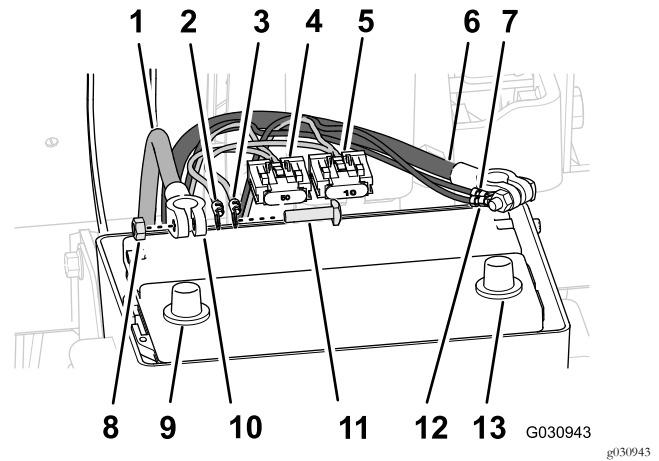

Figure 170
1. Route the positive terminal (red wire), negative terminal (black wire), and 50 A fuse block of the rear wire harness up between the battery box and the chassis of the machine (Figure 170).
3. Remove the T-bolts and hex nuts from the terminals of the positive and negative battery cables (Figure 170).
4. Assemble a T-bolt through the positive terminal (red wire) of the rear wire harness, the positive terminal of the navigation electrical harness, and terminal of the positive battery cable (Figure 170).
5. Loosely secure the terminals and the T-bolt with a hex nut (Figure 170).
6. Assemble a T-bolt through the negative terminal (black wire) of the rear wire harness, the negative terminal of the navigation electrical harness, and terminal of the negative battery cable (Figure 170).
7. Loosely secure the terminals and the T-bolt with a hex nut (Figure 170).